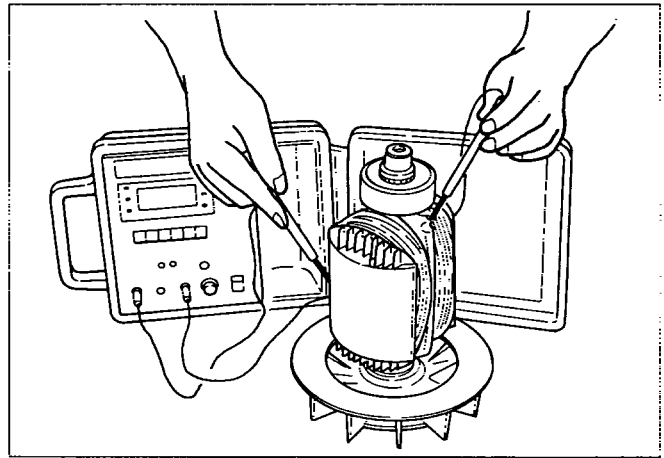

Fig. 11-6
- 3) Measure the insulation across one of the soldered terminals of the rotor and the core. (Fig.11-6)